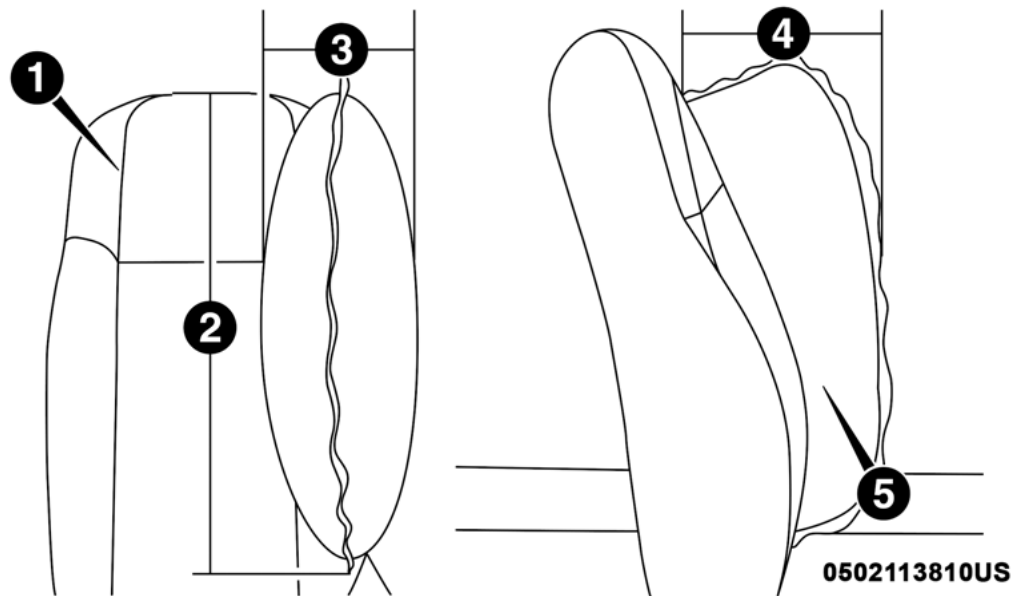

Figure 8 - Supplemental Seat Mounted Side Air Bag Deployment Zone, depicts the following:
4. Supplemental Seat-Mounted Side Air Bag (SAB) Deployment Zone (Figure 8)